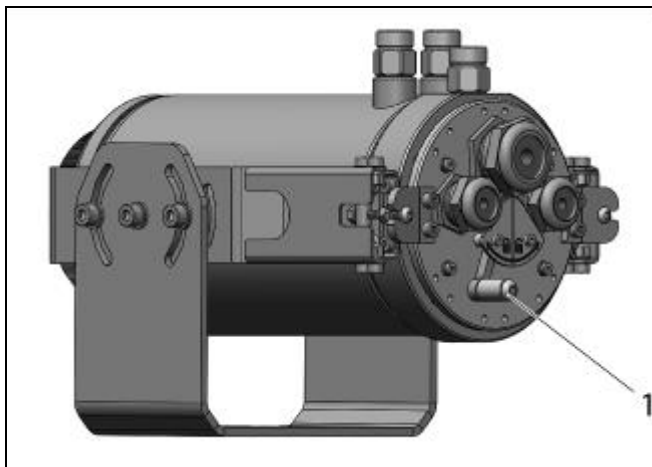

Figure 26: Back side of the CoolingJacket with locking lever
6. Move the locking lever to the left (symbol: ) , so that the chassis is fitted close to the inner surface of the housing (**Figure 26**).
4. Move the locking lever to the left (symbol: ) , so that the chassis is fitted close to the inner surface of the housing (**Figure 26**)